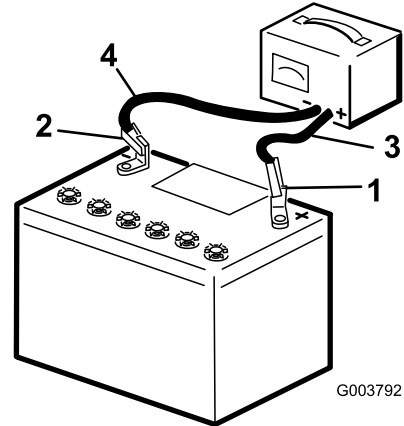

Figure 46
2. Charge the battery for 10 to 15 minutes at 25 to 30 A or 30 minutes at 4 to 6 A (Figure 46). Do not overcharge the battery.
3. When the battery is fully charged, unplug the charger from the electrical outlet, then disconnect the charger leads from the battery posts (Figure 46).
1. Using the fasteners previously removed, install the positive (red) battery cable to the positive (+) battery terminal (Figure 46).
3. Using the fasteners previously removed, install the negative (black) battery cable to the negative (-) battery terminal (Figure 46).
4. Secure the battery using the bar and wing nuts (Figure 46).